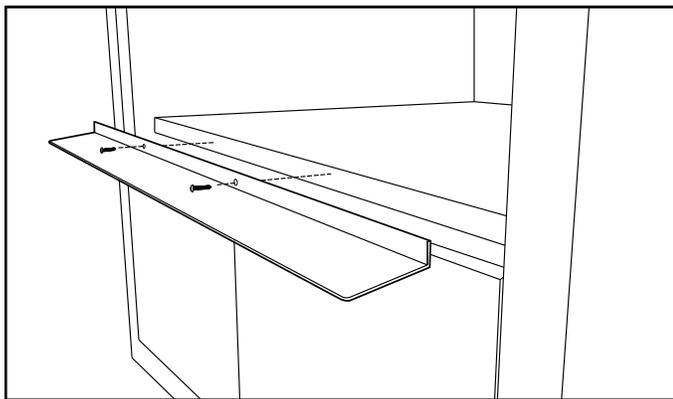

Figure 6A: Deflector Vent Installation for 24" Drawer Microwave (during installation)
2. Position deflector vent and mark holes as shown in Figures 6A and 6B. Pre-drill using a 1/16" bit.